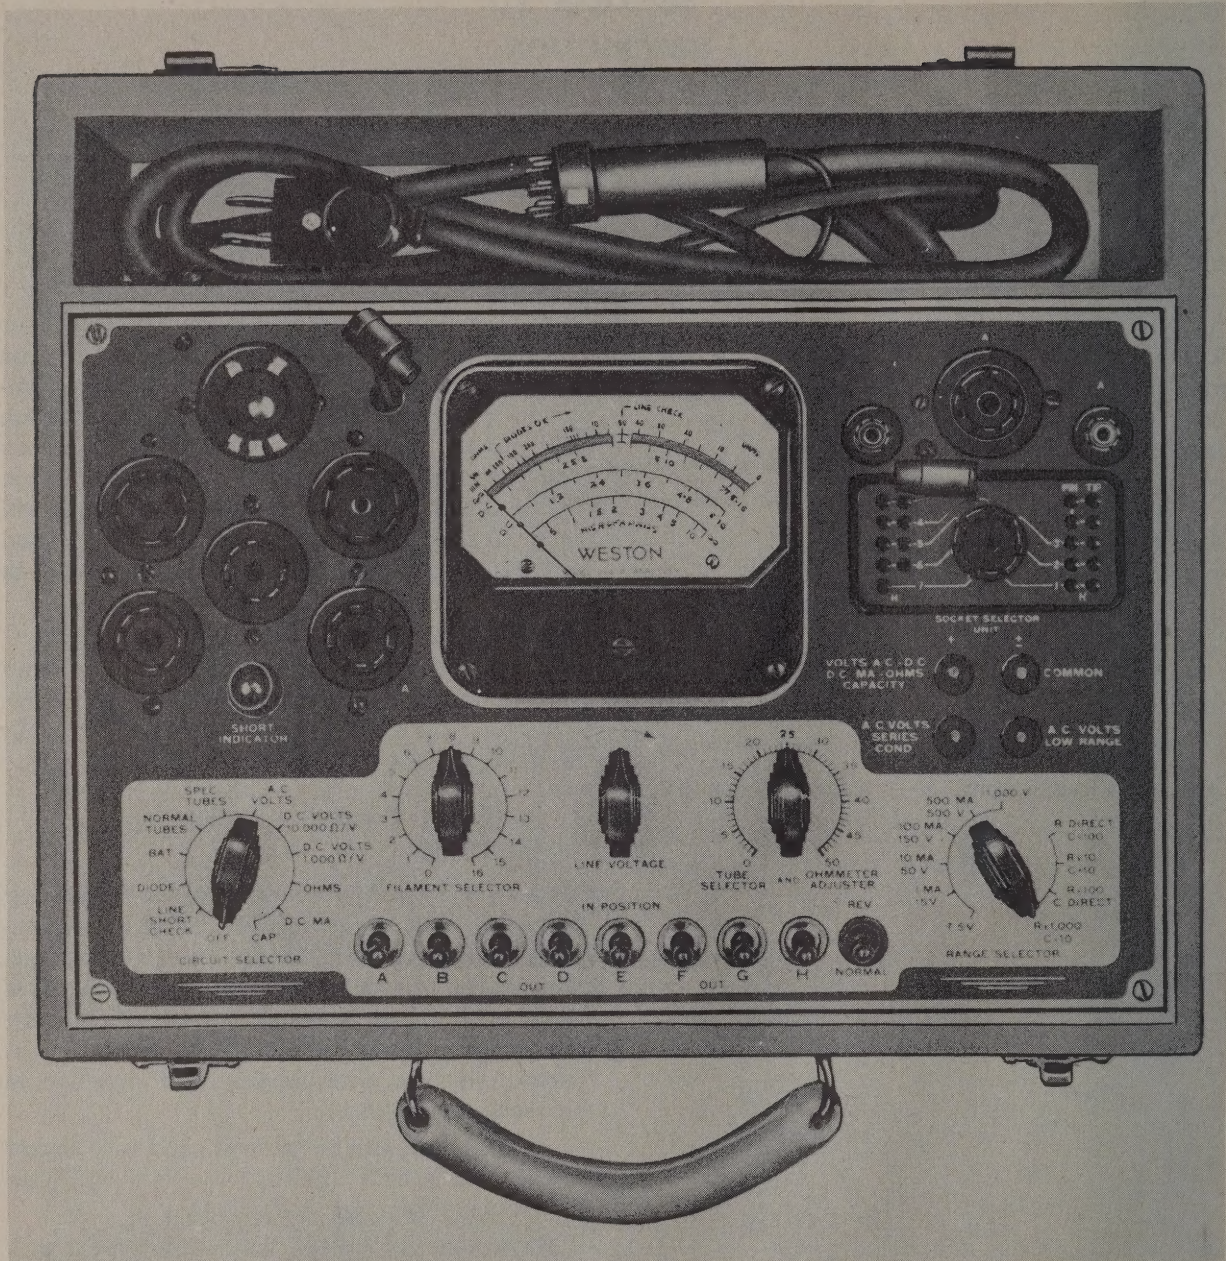

Figure 3
Analysis can also be made at each tube socket using the SOCKET SELECTOR UNIT built into the device. (See Figs. 3, 4, & 5.)
a. A.C. Voltage Ranges. As illustrated in Figure 3, left-hand, or CIRCUIT SELECTOR, switch sets up the various analyzer circuits as well as the necessary tube tester circuits. Rotate this switch clockwise (right) from OFF, to A.C. VOLTS. In this position, measurements are made through an internal copper oxide rectifier unit.
b. Output Tests. Output meter readings on the receiver can be taken using the a-c voltage ranges directly, or when d-c voltage is also present, as in the plate circuit of a vacuum tube, a blocking capacitor is provided at the pin jack, A.C. VOLTS SERIES COND. of Model 774 (Fig. 3). One of the test leads is inserted in this jack, the other remains in the COMMON jack. When output tests are desired at the voice coil or across other low impedance circuits where the voltage conditions are usually limited, a special low uncalibrated range of approximately 2.0 volts alternating current is provided between the COMMON jack and the jack marked A.C. VOLTS LOW RANGE. Set Circuit Selector to A.C. Volts. Range Selector may be in any position.